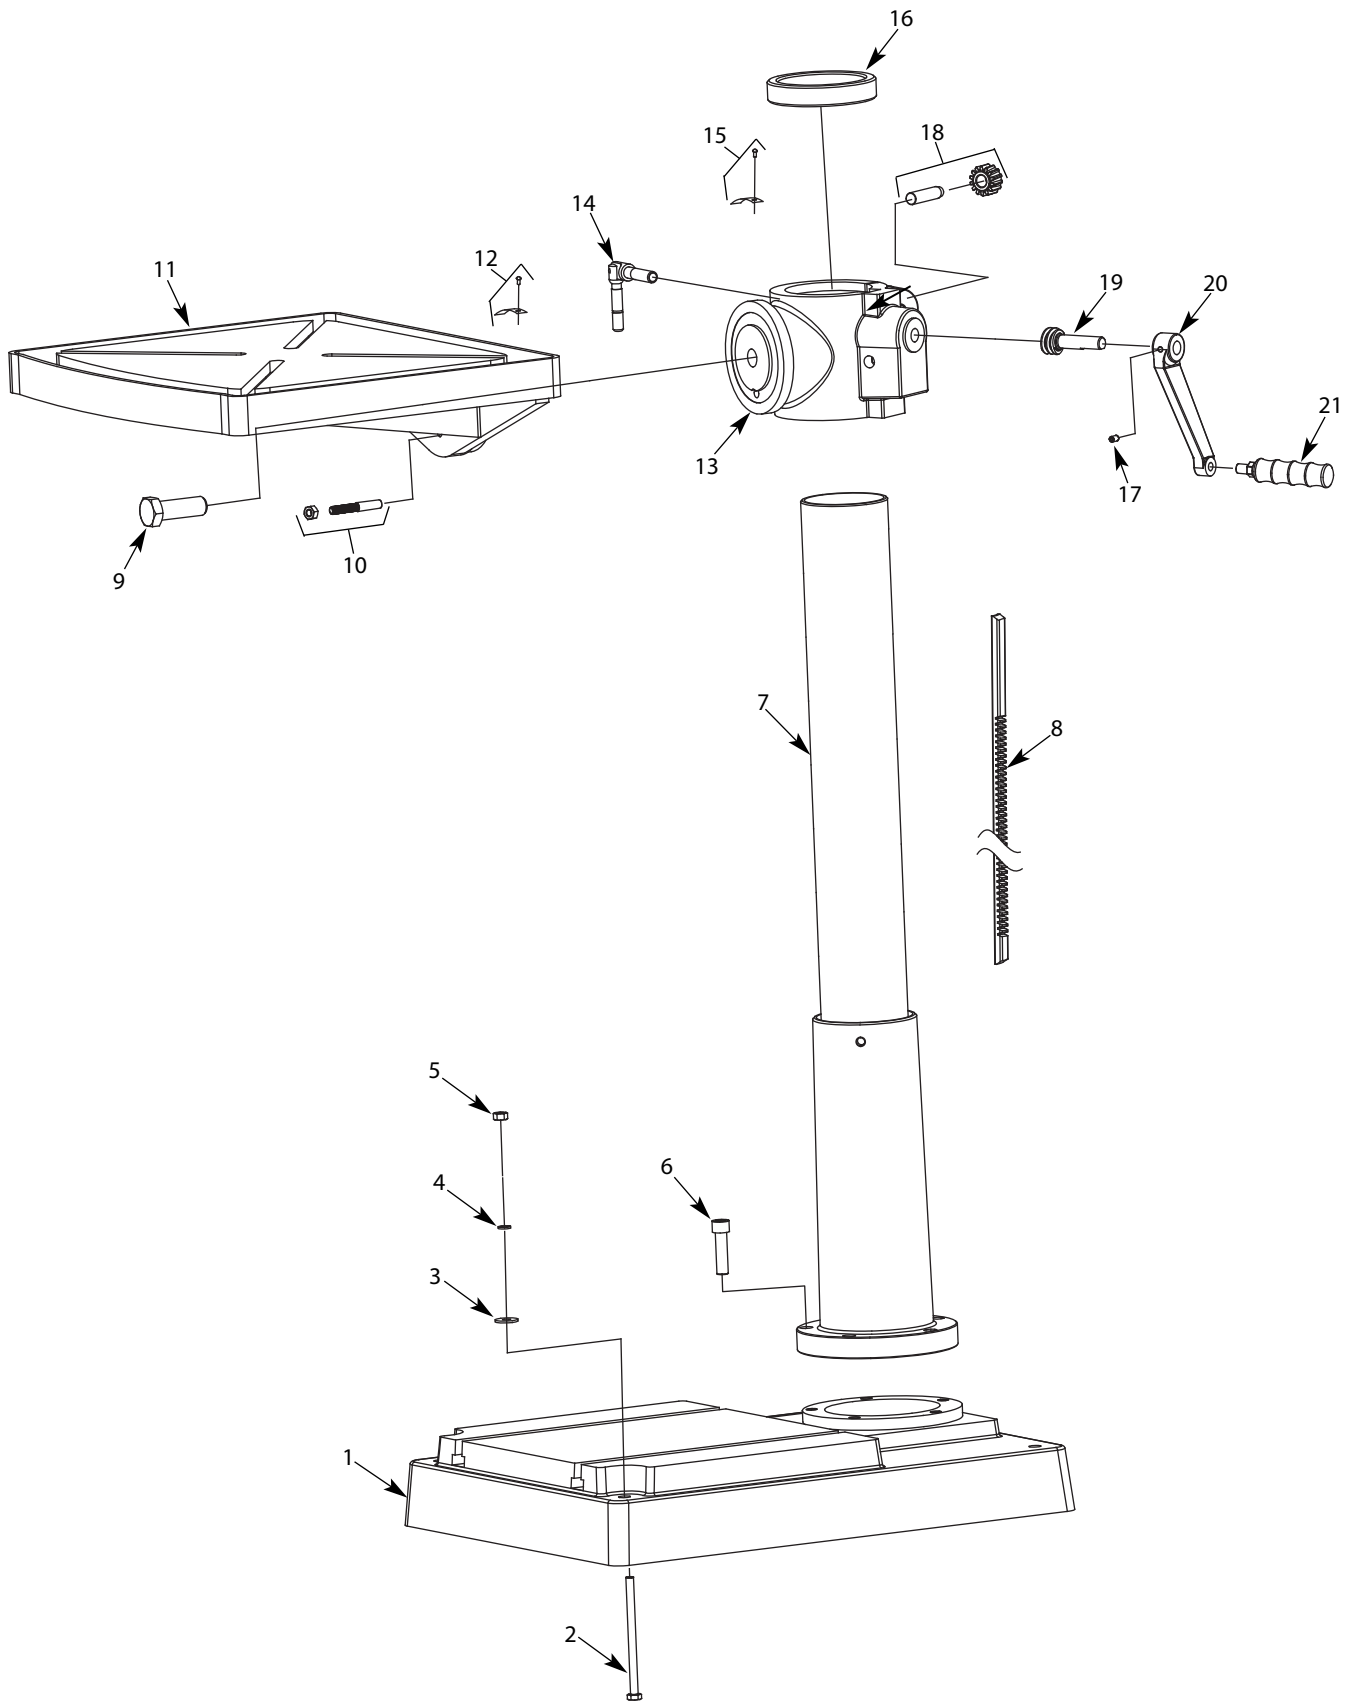

Figure 7 - Replacement Parts Illustration for Base
Refer to Figure 7.
Refer to Figures 7 and 8.
- Apply lubricant to rack and pinion gear (Figure 7, Ref. Nos. 8 and 18) on column and table assembly.